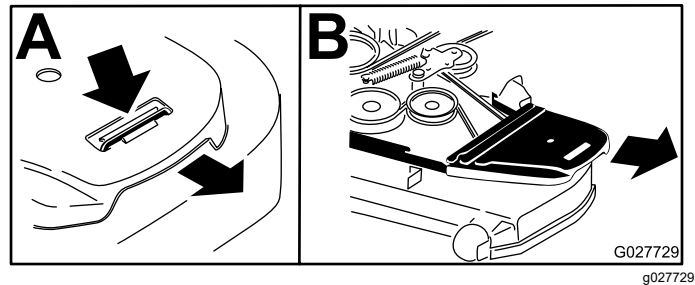

Figure 97
4. Remove the belt covers (Figure 97).